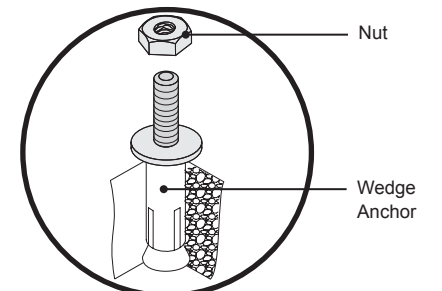

Figure 30. Wedge Anchor Installation
- Insert the wedge anchor into the drilled hole. If necessary, use a hammer and gently tap the wedge anchor into place (Figure 30).